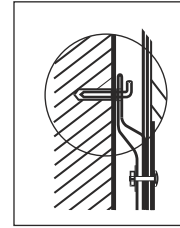

Fig. 8
2. After you chose the proper place to install the water heater, determine points for holes for anchor hook bolts (to be determined in accordance with the data sheet for the appliance you chose). Drill two holes of the corresponding depth in the wall using a drill, dimensionally fit for anchor bolts, enclosed with the water heater. Then insert bolts into the drilled holes, and, turning bolt hooks clockwise, securely tighten bolt nuts, then hang the water heater on these anchor bolt hooks (see Fig. 8).